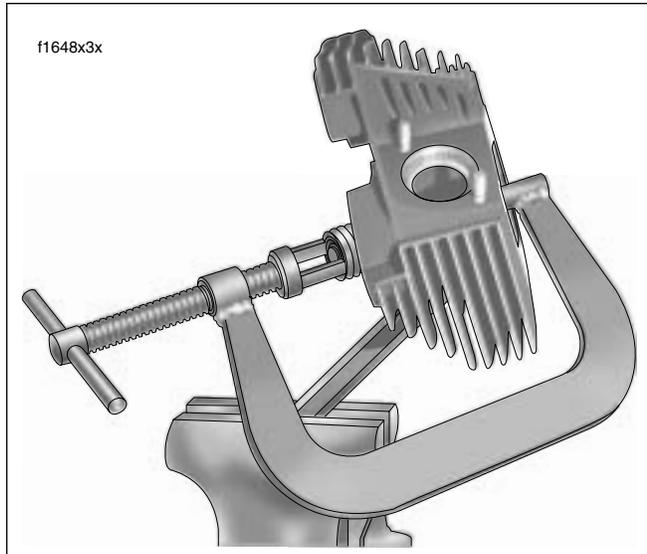

Figure 3-11. Compress Valve Springs
- a. See Figure 3-11. Place tool over cylinder head so that the blunt end is centered on the valve head and adapter at end of forcing screw is seated on the valve spring retainer.